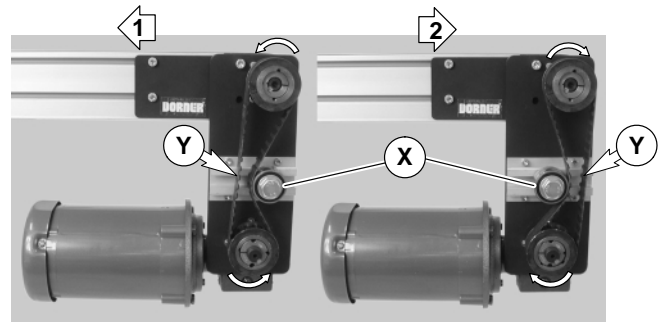

Figure 11
8. Depending on conveyor belt travel (direction 1 or 2), locate timing belt tensioner (X of Figure 11) as shown. Tension timing belt to obtain 1/8" (3 mm) deflection
3. Depending on conveyor belt travel (direction 1 or 2), locate timing belt tensioner (X of Figure 11) as shown. Tension timing belt to obtain 1/8" (3 mm) deflection for 6 lb (3 Kg) of force at timing belt mid-point (Y). Tighten tensioner screw to 110 in-lb (12 Nm).
5. Depending on conveyor belt travel (direction 1 or 2), locate timing belt tensioner (X of Figure 11) as shown. Tension timing belt to obtain 1/8" (3 mm) deflection for 6 lb (3 Kg) of force at timing belt mid-point (Y). Tighten tensioner screw to 110 in-lb (12 Nm).